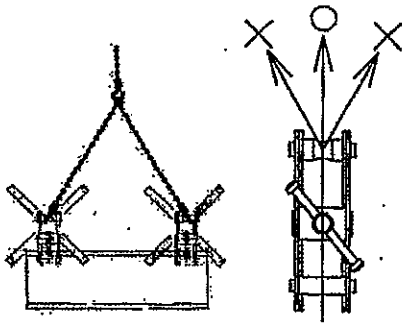

Fig.3
- Do not perform lifting in the inadequate directions shown with the hang of the supporting pin. (Fig.3)